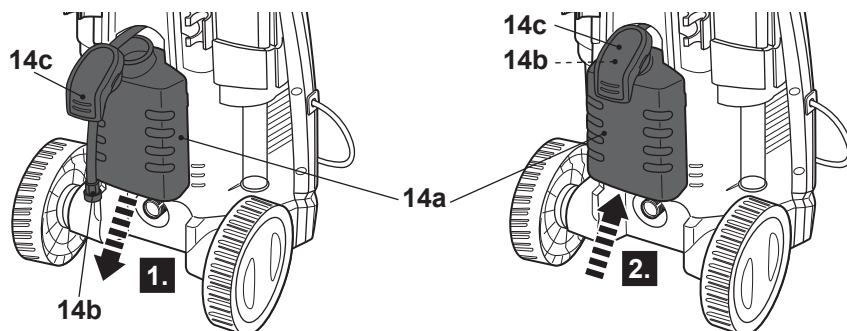

Fig. 19
- > Remove the cover (14b) and tube (14a) from the tank (14).
- > Pull off the tank (14) (Fig. 19, step 1).
- > Wash the tank (14) with clean water and keep it dry for storage.
- > Fix back the tank (14) on its support with the tube (14a) and cover (14b) in their original position (Fig. 19, step 2).